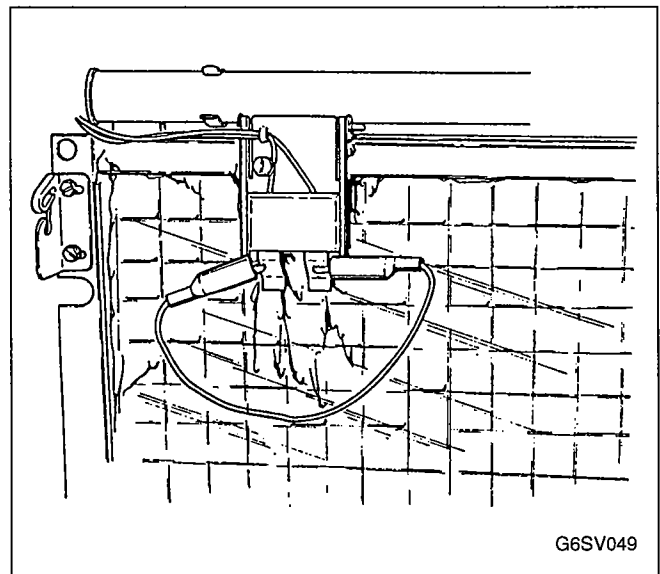

FIGURE 45. JUMPER WIRE CONNECTED TO PROBES
Step 2: Clip the leads of the jumper wire to the ice thickness control probe, Figure 45.